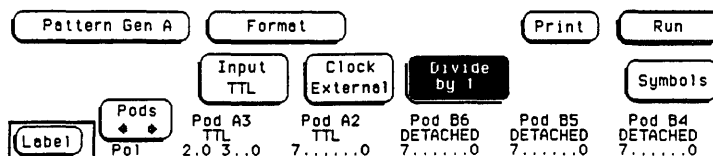

Figure 3-18. Divide By 1 Field
- g. Touch **Divide** field and set to **By 1**. See figure 3-18.